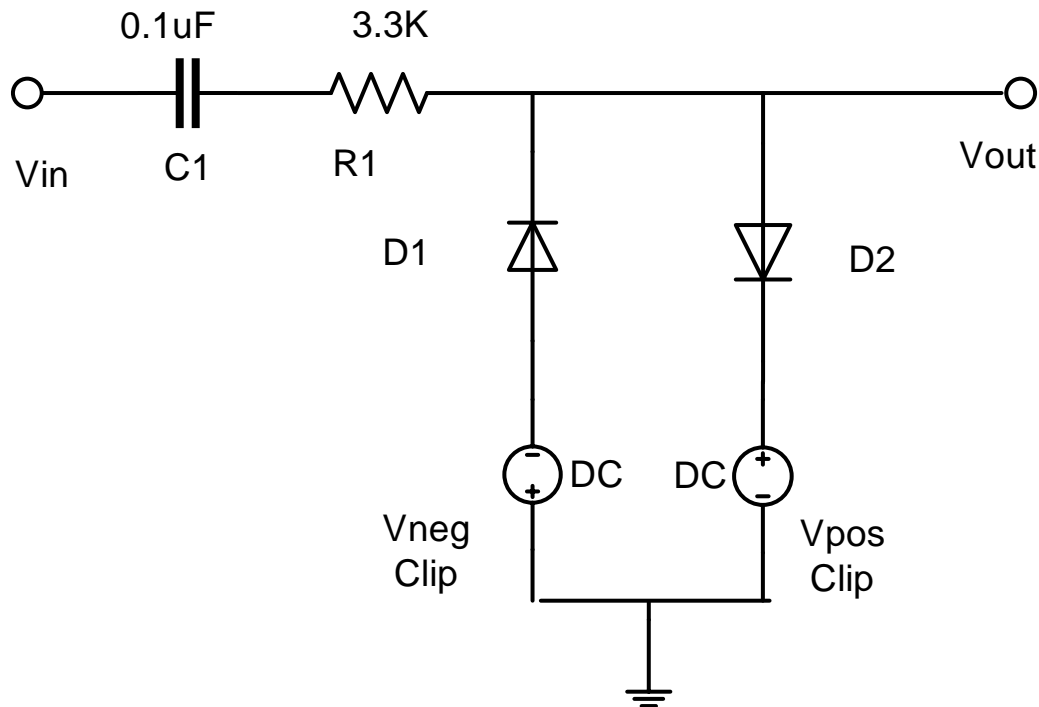

FIGURE 4
5. Design a clipping circuit as shown below, Figure 4, so that the waveform will be clipped at +2V and -3V. Use $R1 = 3.3k\Omega$, $C1 = 0.1\mu F$, 1N4002 diodes for D1, and D2. Show all work. Verify your design using **LTspice** include schematic and plot of V_{in} and V_{out} . $V_{in} = 6V_{peak}$, 5kHz sinewave for plot 2 to 5 cycles. Assume diode forward voltage drop is 0.6V.
5. Verify figure 4 results with LTspice. Turn in with Pre-Lab
8. Part II.5 LTspice Transient of -3V and 2V clipping circuit figure 4. LTspice schematic
5. Now that you know the voltage drop across the diodes that you are using in prelab, design your circuit (Figure 4 from prelab) so that the source is a 5kHz 12Vpp square wave that after clipping is approximately a 0 to 4V square wave. Build your circuit on LTspice and plot the input and output waveforms. Include the LTspice plots and schematics in the report.